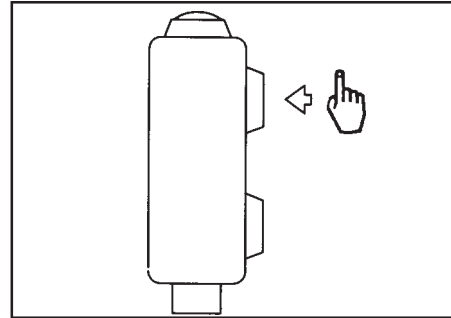

Figure 30
5. The machine has a one touch button on the joystick (see figure 30) that is preset for brush pressure and solution flow. Momentarily depress the one touch button if you wish to use these settings. **NOTE: If this is not the settings that you desire see page 15 or one touch operation.**